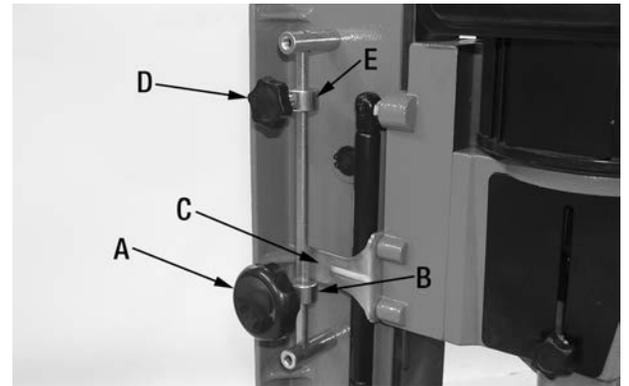

FIGURE 11
If you desire to set the cutting depth to a specific measurement or often to prevent drilling into the work table, a depth stop bushing (B) Fig.11 can be positioned and locked in place with lock knob (A). To set the chisel cutting depth to a specific measurement, first make sure the chisel and bit you intend on using is installed correctly in the head. Example, if you wish to set the depth stop at 1" above the table surface, using the downfeed handle, lower the head until the tip of the bit is 1" above the table surface. Once this is done, loosen lock knob (A) and reposition the depth stop bushing (B) up against the stop plate (C) and retighten lock knob.
During repetitive operations, you may desire to limit the amount of upwards travel of the head making the downfeed distance shorter. Loosening the lock knob (D) Fig.11 and reposition the height stop bushing (E) downwards against the stop plate (C).